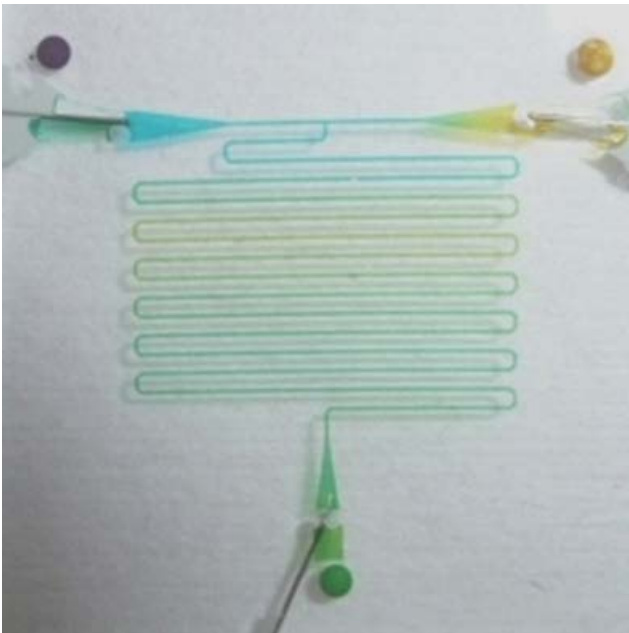

Fig. 2: Cure the PDMS as normal
6. Cure the PDMS as normal (Fig. 2).